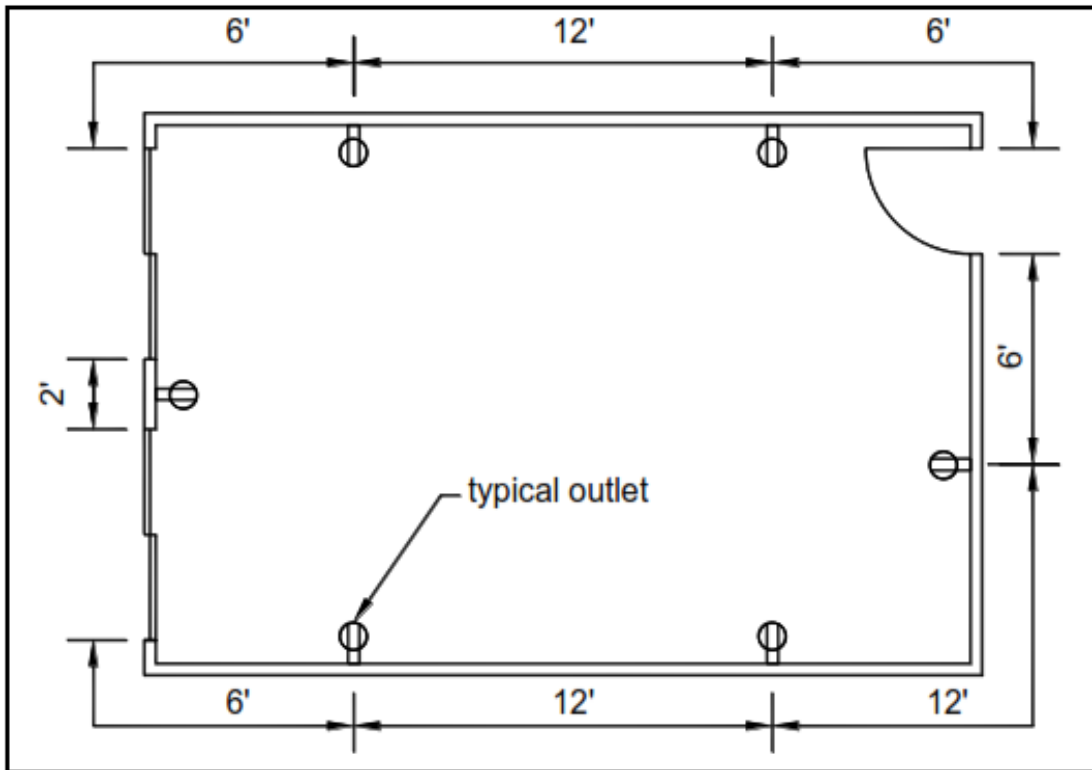

FIGURE 12: TYPICAL OUTLET DISTRIBUTION
- Outlets shall be placed in accordance with FIGURE 12